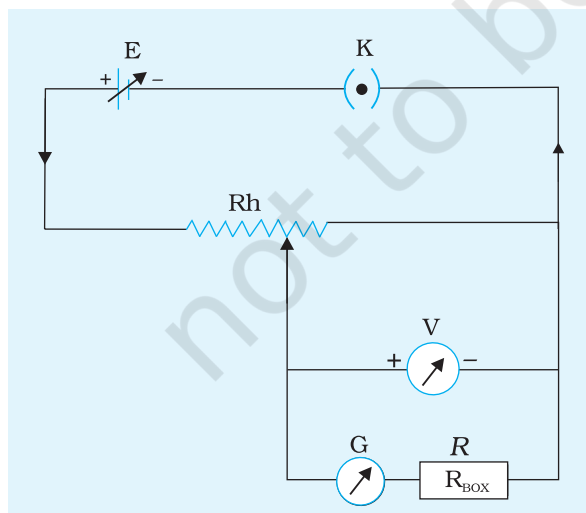

Fig. E 7.2 Circuit to verify conversion of galvanometer into a voltmeter
2. Make the connections as shown in Fig. E 7.2 by connecting a cell and converted galvanometer and the voltmeter of nearly the same range in parallel, with a high resistance rheostat R_h .